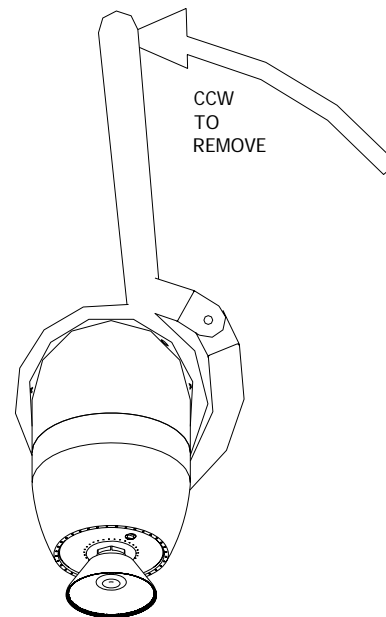

Figure 15: Applicator Removal from Robot
Using the applicator removal tool (76772-00), insert the pin diameter of the wrench into one of the four (4) holes of OD of the quick disconnect ring. Apply a force to the tool in a counter-clockwise direction as shown in Figure 15. Completely remove ring from robot mount plate and pull applicator straight out.